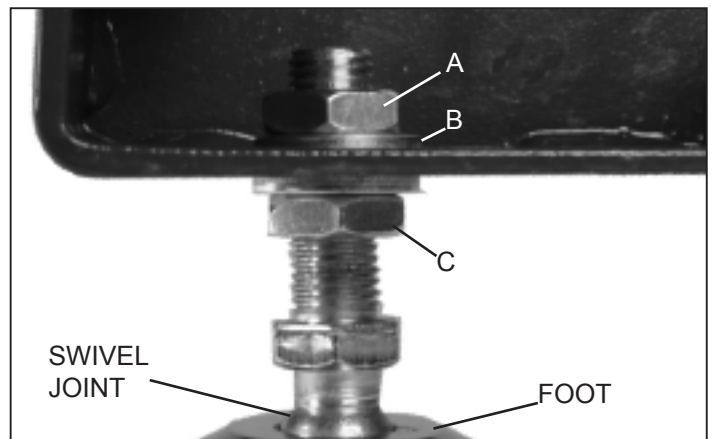

Fig.4.3.3
2. The Adjustable Feet have two hex nuts and washers assembled on their threaded shafts. Remove the top nut and washer (Fig. 4.3.3 A) and leave the bottom nut and washer on the shaft. The bottom nut will be used to adjust the level of the lathe later on. Fig.4.3.3
NOTE: Once the lathe is assembled and in its final location, adjust the bottom nut(s) (Fig. 4.3.3, C) that are right under the bottom of the foot to set your desired spindle height and to level the lathe. Once set, then tighten the top nuts to secure the adjustable feet in position.